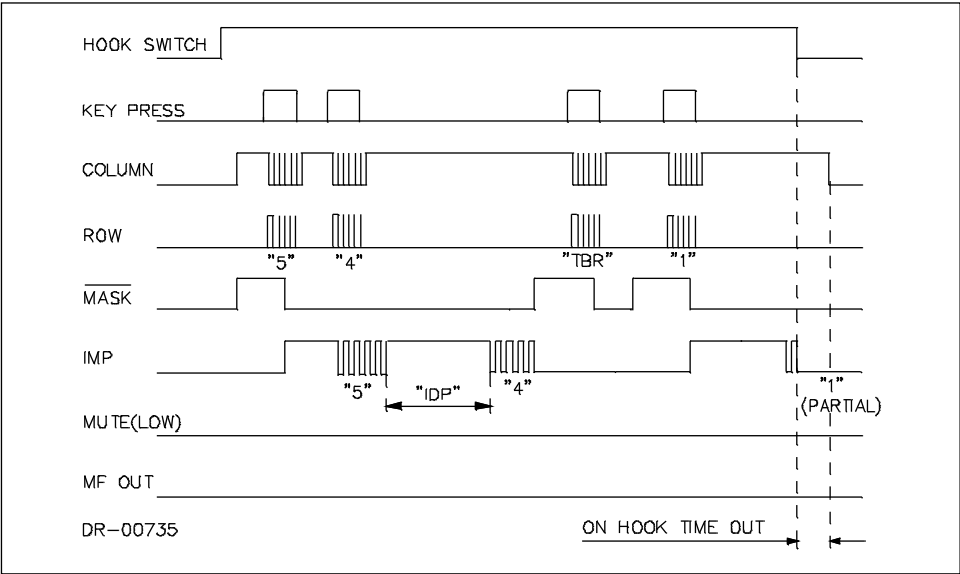

Figure 5: LD Mode Timing Diagram
**Off-hook state:** When the HSW input goes high, the  $\overline{\text{MASK}}$  output immediately goes to the logic '1' level and remains there until dialling starts (see Figure 5). COLUMN outputs also go high until a key is pressed. The oscillator circuit remains inactive until a key is pressed, and is normally off whenever timing functions are not required, hence reducing operating current.
## 10. Loop Disconnect Dialling (Figures 5 and 6)